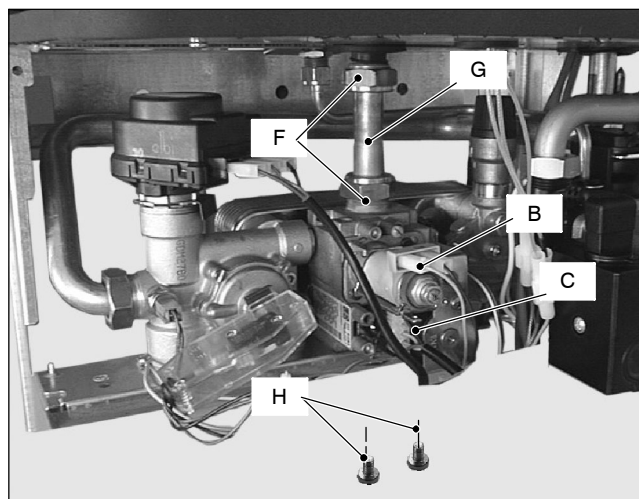

Fig. 5
- 2 Disconnect the connectors *B* and *C* (Fig. 5).